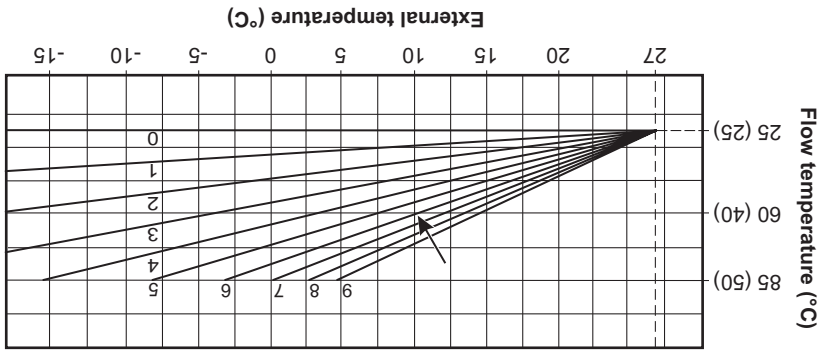
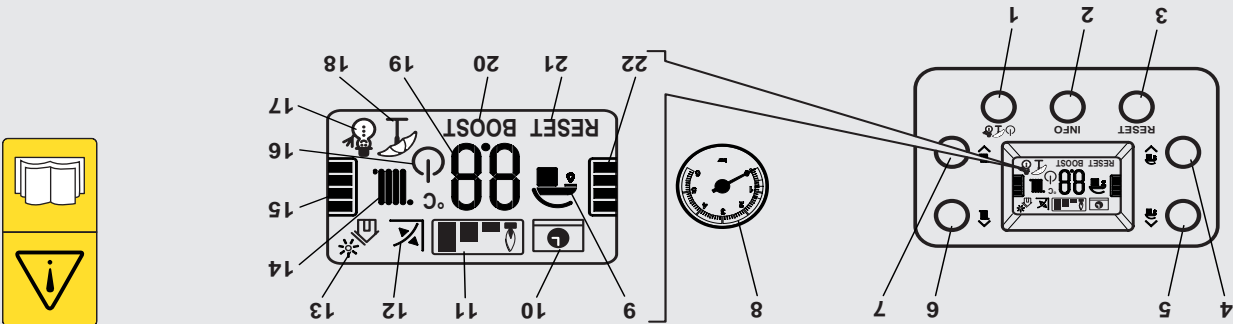

Fig. 2 - External weather compensation sensor fitted
Fig. 1
Summer setting - This function can only be used if the boiler is fitted with an Alpha Diverter Kit allowing control of the hot water cylinder using the boiler controls. This has the added advantage of allowing you to independently control the temperature of the heating hot water and the cylinder hot water. In this mode the boiler will only supply hot water to the cylinder when the temperature of the cylinder water is below that set by the hot water selector buttons (items 4 and 5 in Fig. 1). When heating the hot water cylinder the central heating will not function even if requested by any controls. The desired hot water cylinder temperature can be set using the hot water selector buttons.
Note: When using a standard Y or S plan system the central heating water temperature must be set above the cylinder thermostat value using the buttons 6 and 7 in Fig. 1
External weather compensation sensor (only for use with the Alpha Diverter Kit) - The temperature of the central heating water can be adjusted by using the central heating buttons (items 6 and 7 in Fig. 1). When the heating is on the temperature of the water leaving the boiler to the radiators will be displayed.
If an external weather compensation sensor is fitted, indicated by the  symbol (item 12 in Fig. 1) in the display, it will automatically vary the temperature of the water in the radiators and on mild day the radiators will not feel as hot as on a cold day, this is normal and not a fault with the boiler or heating circuit. The room temperature will still be maintained as set by the room thermostat.
When an external weather sensor is fitted, the central heating selector buttons (items 6 and 7 in Fig. 1) will no longer adjust the flow temperature in °C, instead the display will show a scale of 1 to 9. Each number corresponds to a line on the graph in Fig 2 i.e. line 6 will give a flow temperature of 60°C when the external temperature is 10°C.
The filling loop will have a tap connection at either end. These taps should normally be in the closed position 90° to the tap housing. To fill or pressurise the system open one tap fully by turning it 90° anticlockwise in line with the tap housing. The second tap should be opened a quarter of a turn and the water will start to refill the system (water should be heard filling the system). You should see the pressure gauge (item 8 in Fig. 1) rise back up into the green area on the pressure gauge between 1 bar and 1.5 bar pressure. Observe the reading on the pressure gauge and close the tap when the pointer is in the upper green section just above 1 bar. It is normal for the pressure to rise above the green section when the heating is on as the system expands. If the system is overfilled and the pressure is greater than the green section when cold the pressure can be reduced by carefully venting some water from a radiator.
Make sure the heating system is filled and the needle on the pressure gauge (item 8 in Fig. 1) is in the green band when cold. If incorrect refer to Section 4.
By pressing the Mode button (item 1 in Fig. 1) the Standby or On mode can be selected, or press and hold the Mode button for eight seconds to turn the boiler off.
On - In this mode the boiler can be switched between 'Summer' or 'Winter' settings by pressing the Mode button (item 1 in Fig. 1).